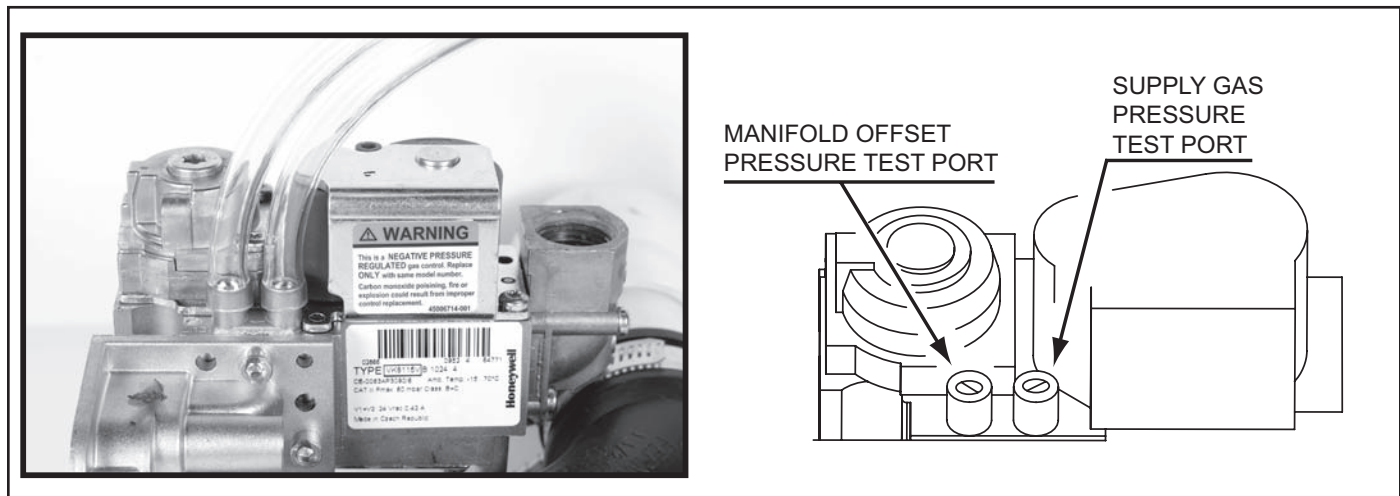

Figure 28
- The manifold offset gas pressure and the supply gas pressure can be measured at two pressure test ports on the water heater's 24 Volt Gas Valve, see Figure 27 below. The manifold offset pressure test port is closest to the Combustion Blower, see Figure 28 on page 26. There is a needle valve in each test port that is opened/closed with a small slotted screwdriver. Turn the needle valve counter-clockwise to open the test port valve and clockwise to close it.
4. Open the manifold offset and supply gas pressure test ports on the 24 Volt Gas Valve, see Figure 28 below. Turn the needle valve slotted heads 1/2 to 1 full turn counter-clockwise with a small slotted screwdriver to open the valves.
5. Attach a sensing tube from 2 digital manometers (see Tools Required on page 2) to the two gas pressure test ports on the valve body as shown in Figure 28 below.